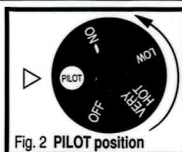

Fig. 2 PILOT position
- 1) To maintain a flame at the pilot burner with the main burner off, turn the control knob clockwise ⤵ to the "PILOT" position (Fig. 2).